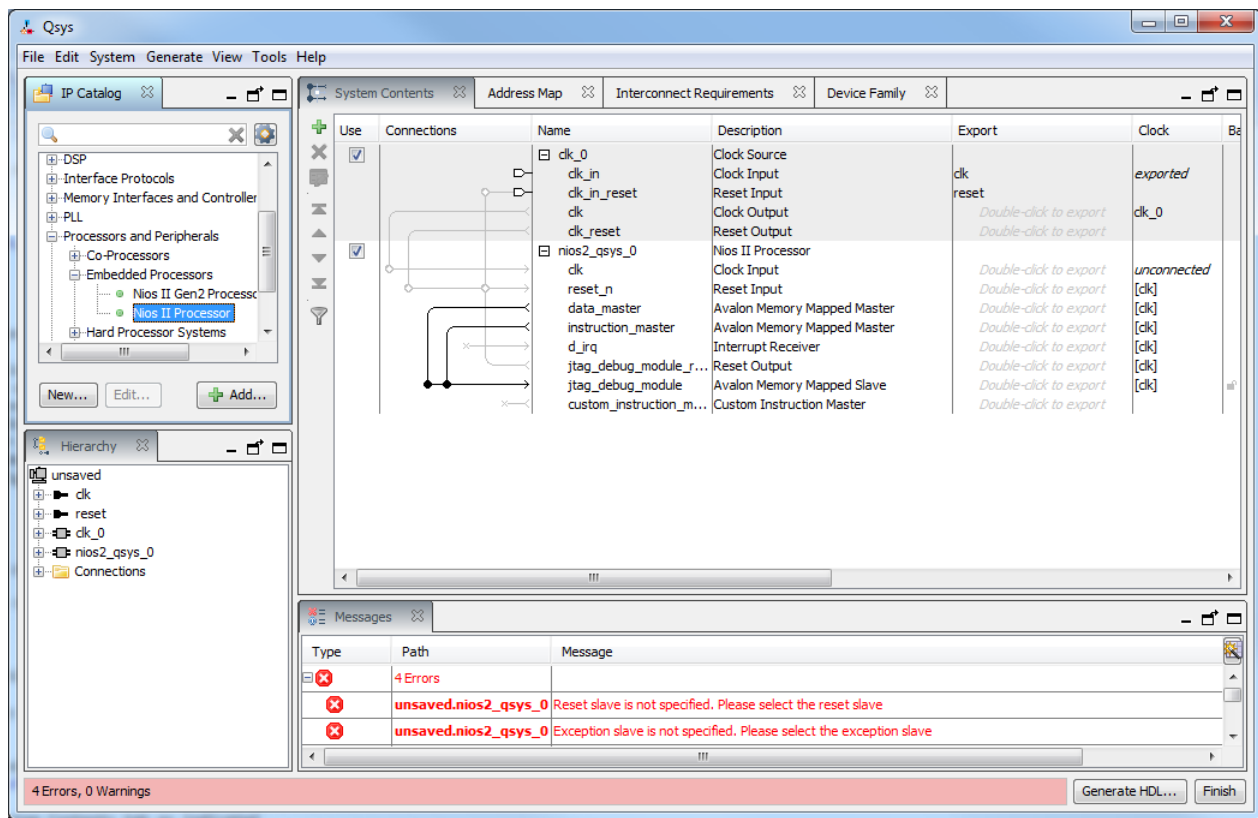

Figure 7. Inclusion of the Nios II processor in the design.
- Choose Nios II/e which is the economy version of the processor. This version is available for use without a paid license. The Nios II processor has *reset* and *interrupt* inputs. When one of these inputs is activated, the processor starts executing the instructions stored at memory addresses known as *reset vector* and *interrupt vector*, respectively. Since we have not yet included any memory components in our design, the Qsys tool will display corresponding error messages. Ignore these messages as we will provide the necessary information later. As of Quartus II version 14.0, you must disable the Include reset_req signal for OCI RAM and Multi-Cycle Custom Instructions setting in the Advanced Features tab to ensure proper operation. It is important that the checkbox is unchecked, otherwise you will experience issues when loading programs onto the system using the Altera Monitor Program. Click Finish to return to the main Qsys window, which now shows the Nios II processor specified as indicated in Figure 7.